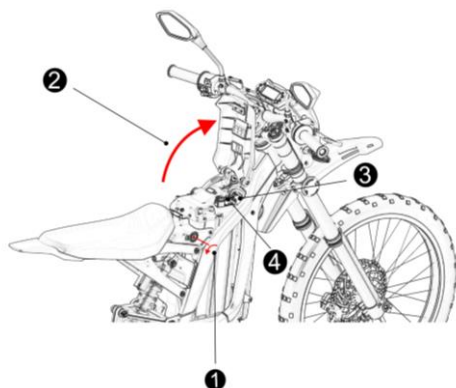

Fig 4
5. Disassemble and assemble battery (see Fig 4)